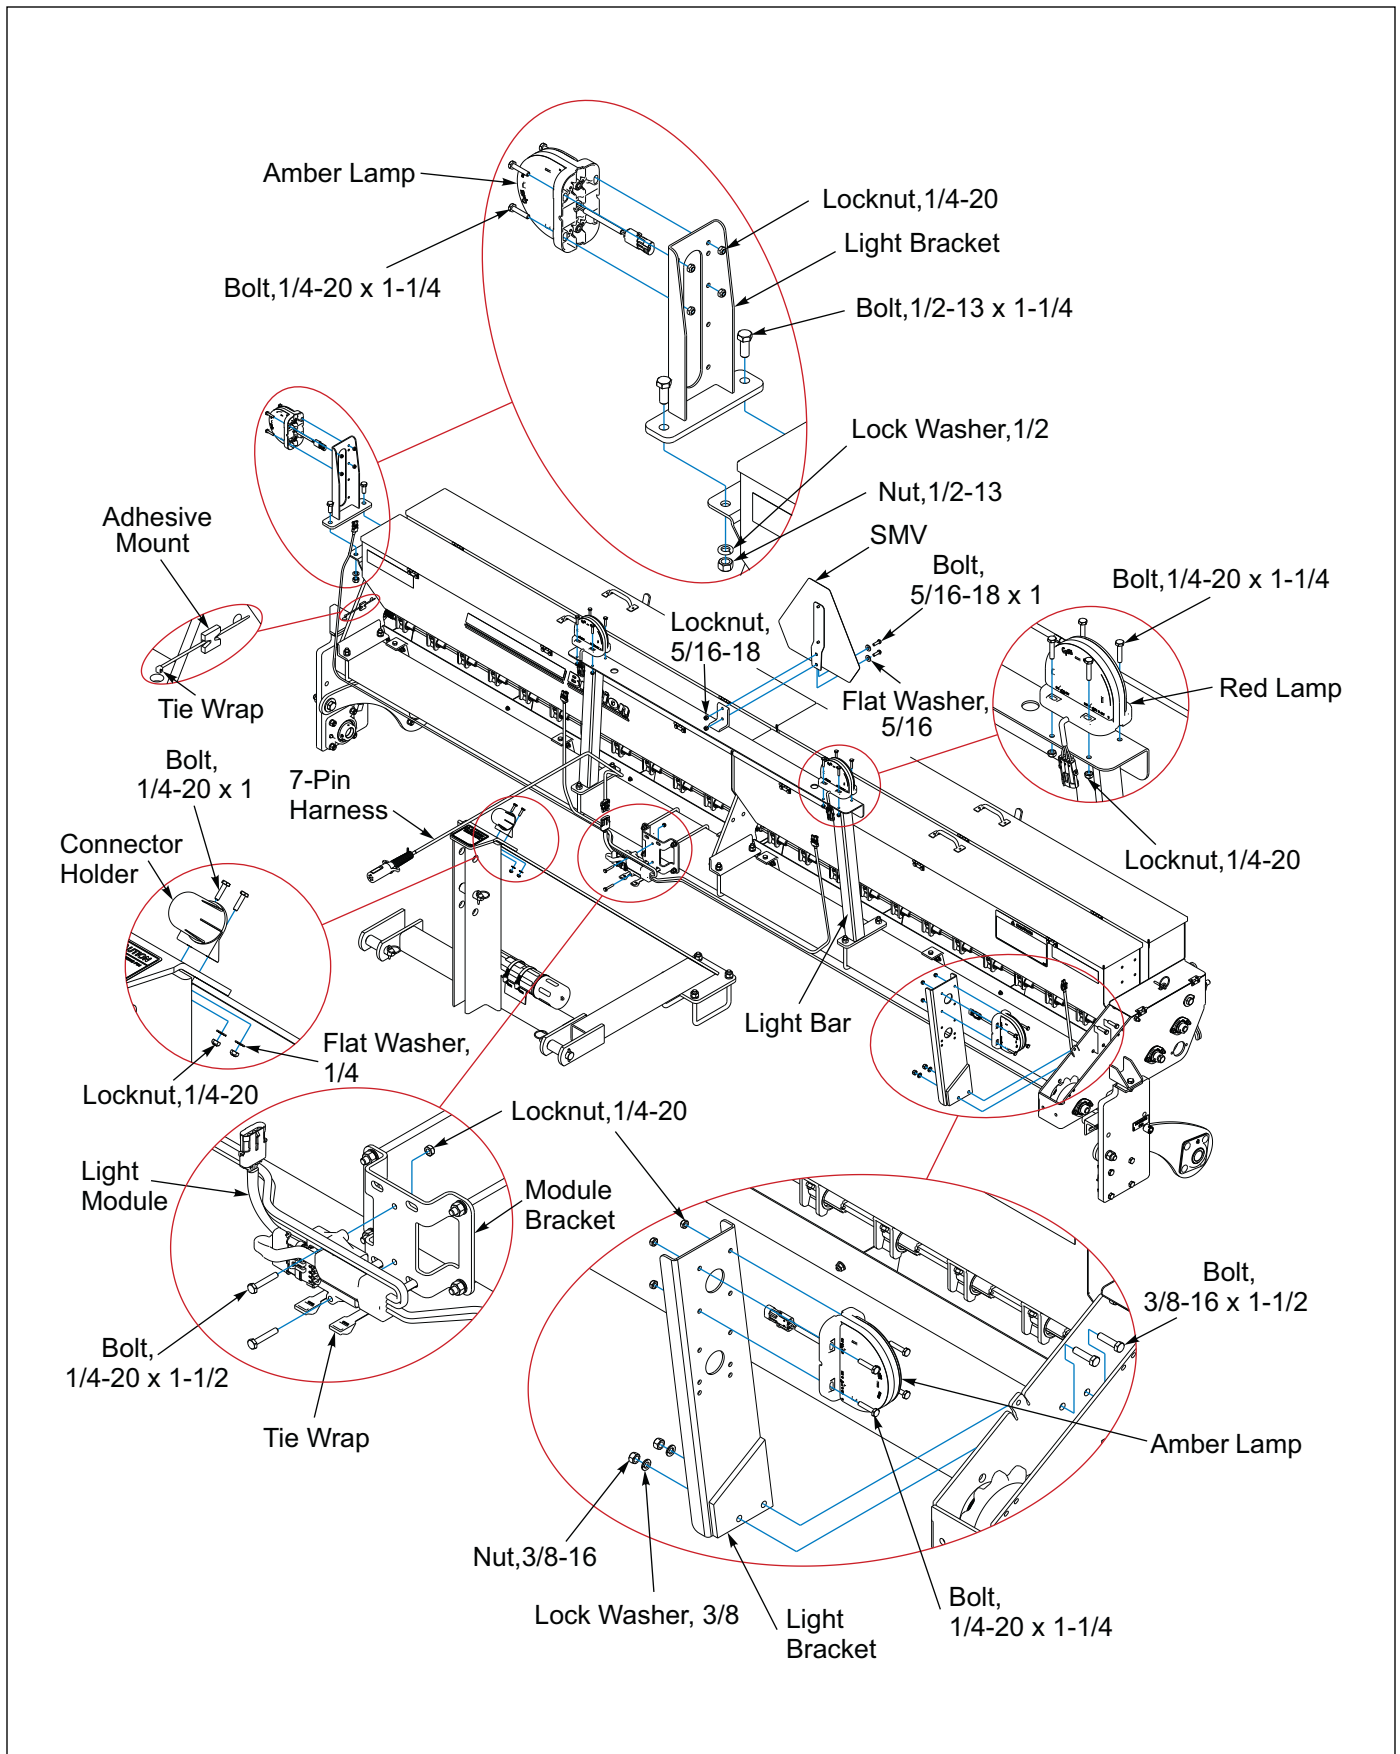

Figure 2-17: Warning Lamp Installation, 12FT
1. Attach both Red Lamps to the ends of the Light Bar with 1/4-20 x 1-1/4 Bolts and Locknuts. **See Figure 2-17.**